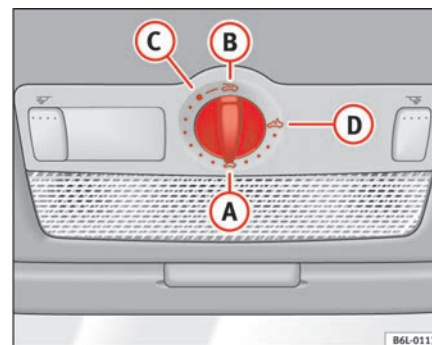

Fig. 54 Roof lining description: rotary sun roof control
- Turn the rotary button to position **A** ⇒ fig. 54 ⇒  ▶